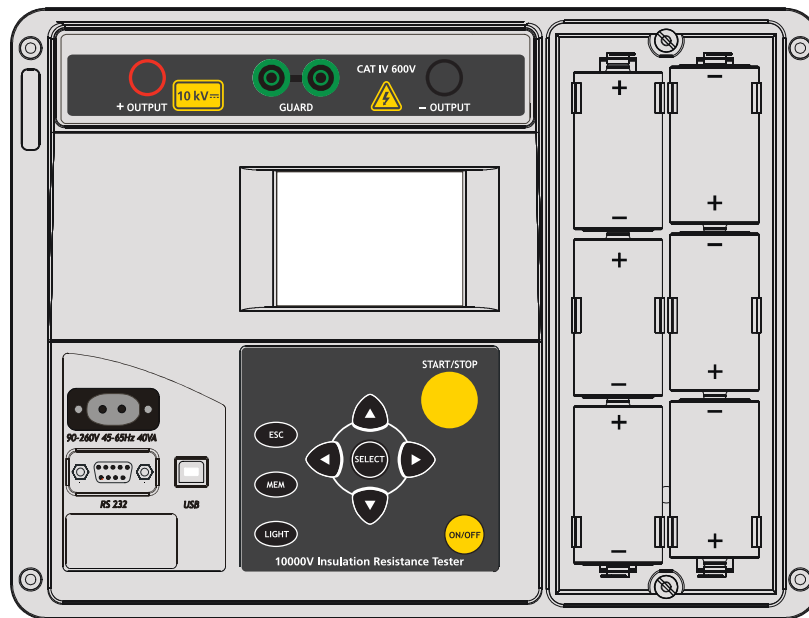

Fig. 30 Correct polarity of inserted batteries
Battery cells are stored in the bottom section of the instrument casing under the battery cover (see Fig. 30). When inserting batteries for the first time please note the following:
- Insert the batteries correctly (see Fig. 30), otherwise the test instrument will not operate!
Battery cells are stored in the bottom section of the instrument casing under the battery cover (see Fig. 30). In case the batteries become defective please note the following:
- To easy remove batteries from battery holder first remove the middle batteries in each column and then the others (see the Fig. 30).
- Insert the batteries correctly (see Fig. 30), otherwise the test instrument will not operate and battery may be discharged!
Nominal power supply voltage is 7.2 V DC. Use six NiMH cells with size equivalent to IEC LR20 (dimensions: diameter = 33 mm, height = 58 mm). See the Fig. 30 for correct polarity of the batteries.